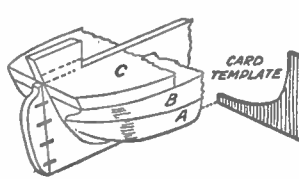

Fig. 4—A shaper for the hull
At the stern of the ship the upper sides are held similarly by the stern blocks (E). Fig. 4 shows how the stern shaping is done before the upper sides are attached or the stern board cut and glued in place. The dotted lines on the diagram of this stern board indicate where the upper sides butt on.
Such a template is shown in Fig. 4, and it would be well to make, say, three of these. One is to be used at